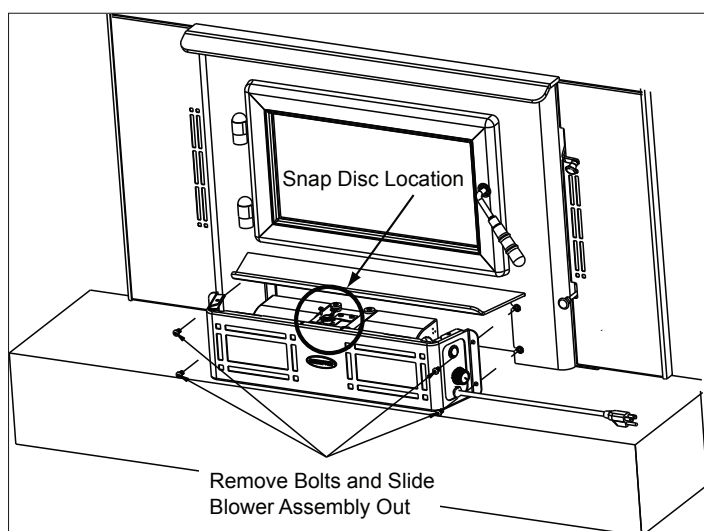

Figure 23.1 Snap Disc Location
1. The snap disc bracket assembly is located on top of the blower housing in the center. **Figure 23.1.**